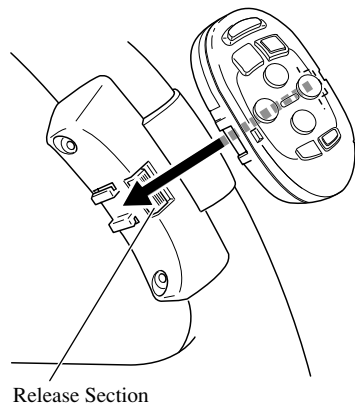

Fig. 11
4. Install the remote control unit in the holder. (Fig. 11)